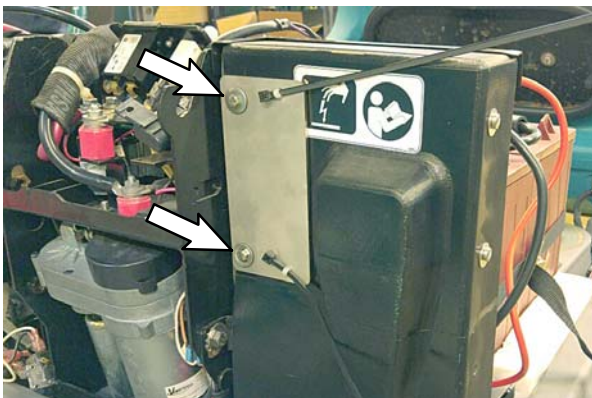

Fig. 10
13. Use the two M5 hex screws / flat washers securing the electrical panel cover to the machine to install the shunt bracket (7) onto the electrical panel cover. (Fig. 10)